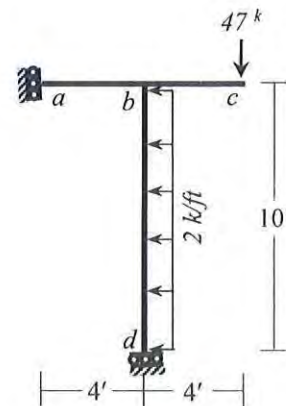

Fig.4
- Use Stiffness Method considering geometric nonlinearity and flexural deformations only to calculate the unknown rotation at *b* and displacements at *a* and *d* of the frame *abcd* loaded as shown in **Fig.4**